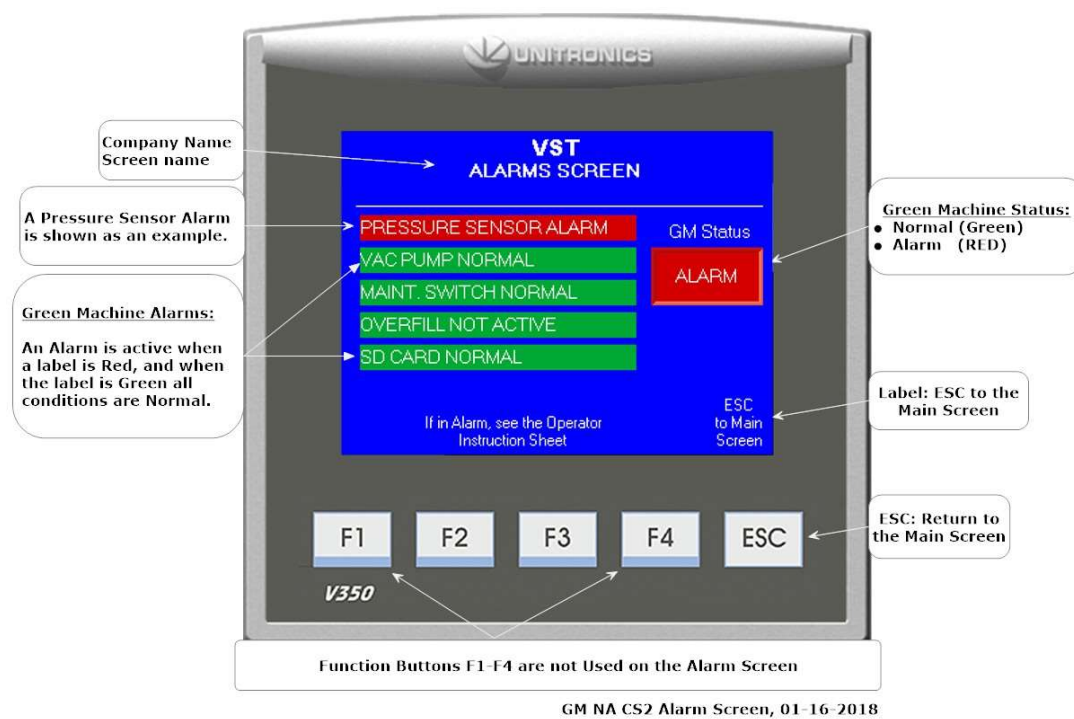

Figure 11-5: Pressure Sensor Alarm shown on the Faults & Alarms Screen
- The Alarms Screen shows the following alarms: **See Figure 11-5.**